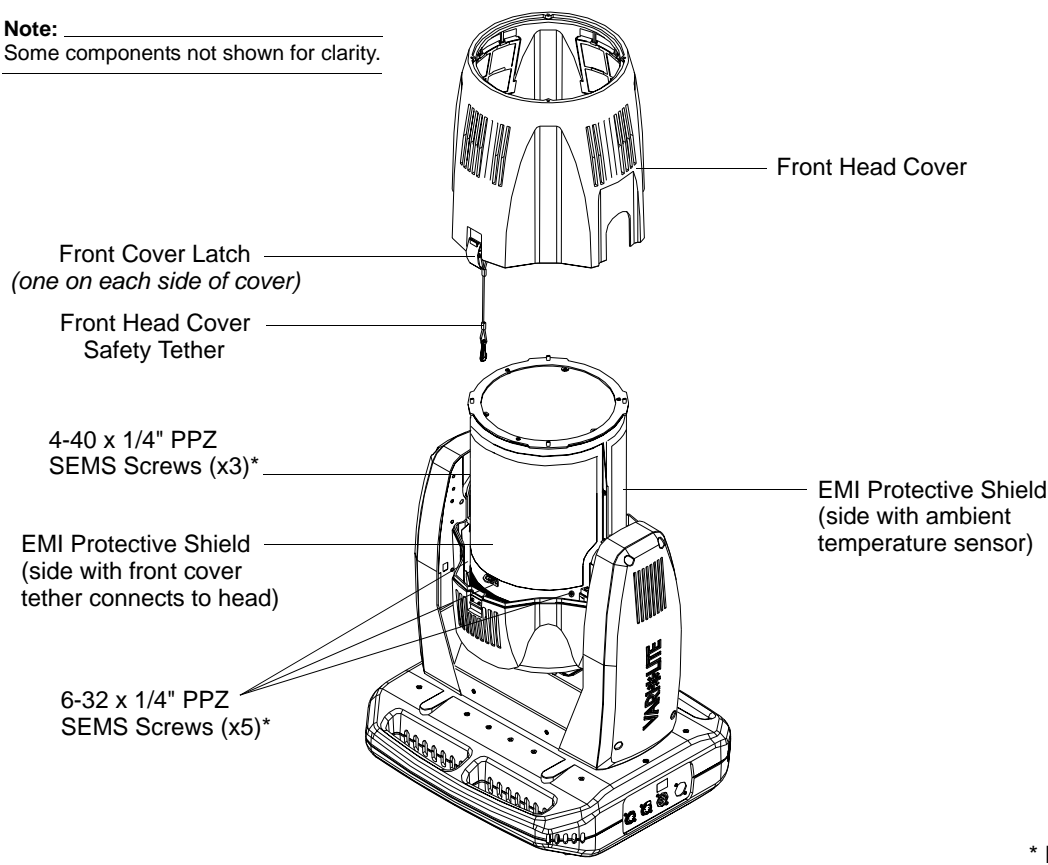

Figure 2-6: Front Head Cover and EMI Shields Removal
Step 5. Remove protective EMI shields from around optics assembly as shown in Figure 2-6 as follows: